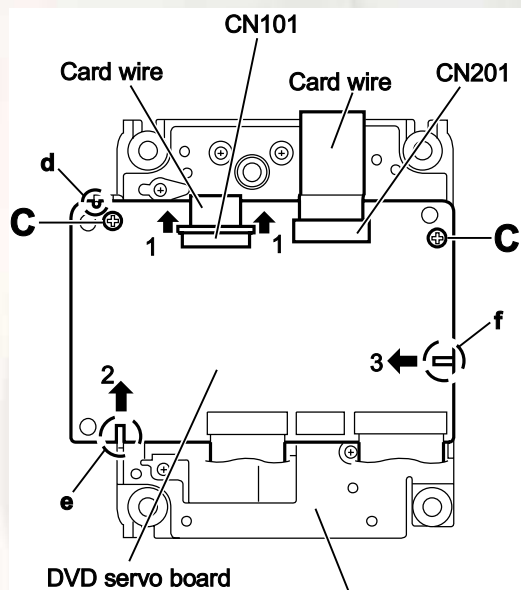

Fig.6
- (2) From the bottom side of the traverse mechanism assembly, release the lock of the connector **CN101** on the DVD servo board in the direction of the arrow 1 and disconnect the card wire. (See Fig.6.)
- (3) Disconnect the card wire from the connector **CN201** on the DVD servo board. (See Fig.6.)
- (4) Remove the two screws **C** attaching the DVD servo board. (See Fig.6.)
- (5) Remove the DVD servo board from the engagement section **d** in an upward and remove the engagement section **f** in the direction 3 while removing the engagement section **e** in the direction of the arrow 2. (See Fig.6.)